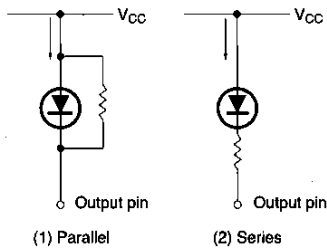

Fig. 3
To reduce the LED current, connect a resistor either in parallel (Fig. 3 (1)) or in series (Fig. 3 (2)) with the LED.